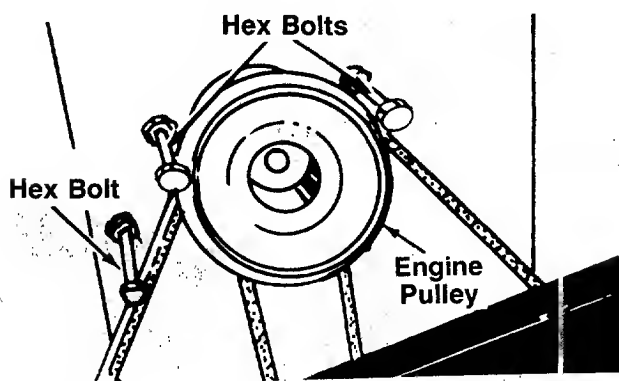

FIGURE 21.
NOTE: Figures 21 through 24 are shown with the unit tipped up for clarity. It is not necessary to tip the unit to remove the belts.
3. Remove the three hex bolts (belt keepers) from the engine pulley belt guard. Refer to figure 21.